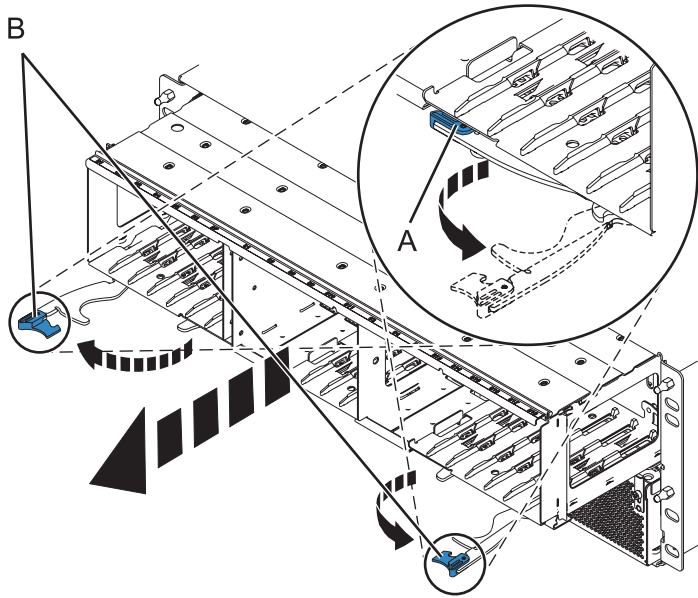
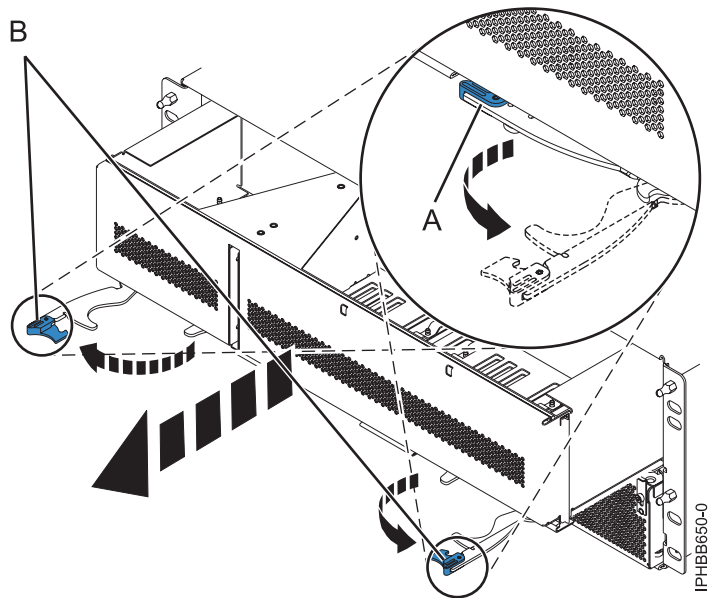

Figure 3. Removing the backplane from the enclosure
Figure 4. Removing the backplane filler from the enclosure
8. Remove the backplane from the 5802 expansion unit as shown in Figure 3 on page 5 or the backplane filler from the 5877 expansion unit as shown in Figure 4 on page 5.